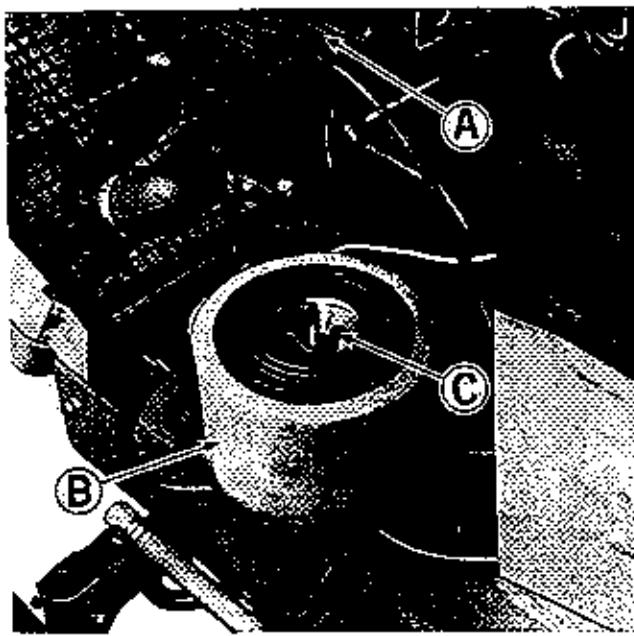

Figure 22. Air cleaner with cover removed on left side of engine.
See figure 22. All grass and chaff should be removed from the engine fins (A). CAUTION: THE ENGINE FINS ARE VERY HOT AFTER THE ENGINE HAS BEEN OPERATED. DO NOT TOUCH THEM UNTIL THE ENGINE HAS BEEN ALLOWED TO COOL. NEVER SPRAY WATER ON A HOT ENGINE.
2. See figures 22 and 23. Remove the foam precleaner (B) and wash it in liquid detergent and water and squeeze dry.
4. Install the foam precleaner as shown in figures 22 and 23.
CLEAN OR REPLACE AIR FILTER ELEMENT: The engine air cleaner is made up of two types of filters. The foam filter (Figure 22, Item B) and a dry filtering element. The foam element should be cleaned and oiled every 25 hours as explained under the Every 25 Hour Maintenance
2. See figures 22 & 23. Remove the foam element (B) and clean and oil it as described in the Every 25 Hour Maintenance Service.
3. Remove wing nut (C) and remove the paper element from the air cleaner.
5. See figures 22 & 23. Replace the paper element and wing nut (C) and tighten it securely.
6. Install the foam element (B) over the paper element as shown in figure 22.